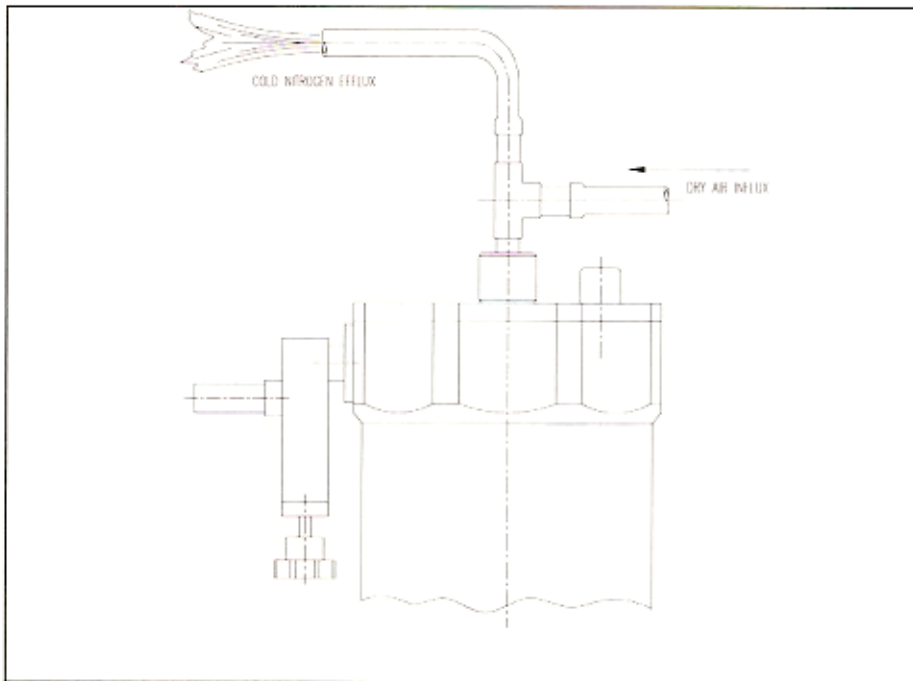

FIGURE 6--Blowing Out Liquid Nitrogen from Helium (inner) Vessel
- (11) Reinsert the fill device and connect a hose to the vent port. The hose should be connected to the port that is perpendicular to the fill tube, Figure 6. Connect the other end of the hose to a pressurized source of dry nitrogen gas with a supply pressure greater than 20 psig. A liquid nitrogen storage container may be used.
- (12) Slowly open the valve of the gas supply to force the liquid nitrogen out of the vessel. The liquid will exit rapidly from the fill tube port that is axial to the dewar (see Figure 6). A hose may be attached to this port to direct the liquid nitrogen away from people and sensitive instruments, and into an insulated container for reuse.
- (13) Continue to blow out the liquid nitrogen until only gas is seen exiting the port. It is advised that you continue to run gas through the vessel for about 30 seconds to make sure that all the liquid nitrogen is expelled or vaporized. Any residual liquid nitrogen left in the vessel could cause problems during liquid helium transfer: the nitrogen will solidify at liquid helium temperature, possibly clogging the transfer tube, and using excess helium for cooling.
- (14) When all the liquid nitrogen is removed, loosen the knurled knob and remove the fill port. The dewar is now ready for liquid helium. Instructions for helium transfer are included for helium dewars.